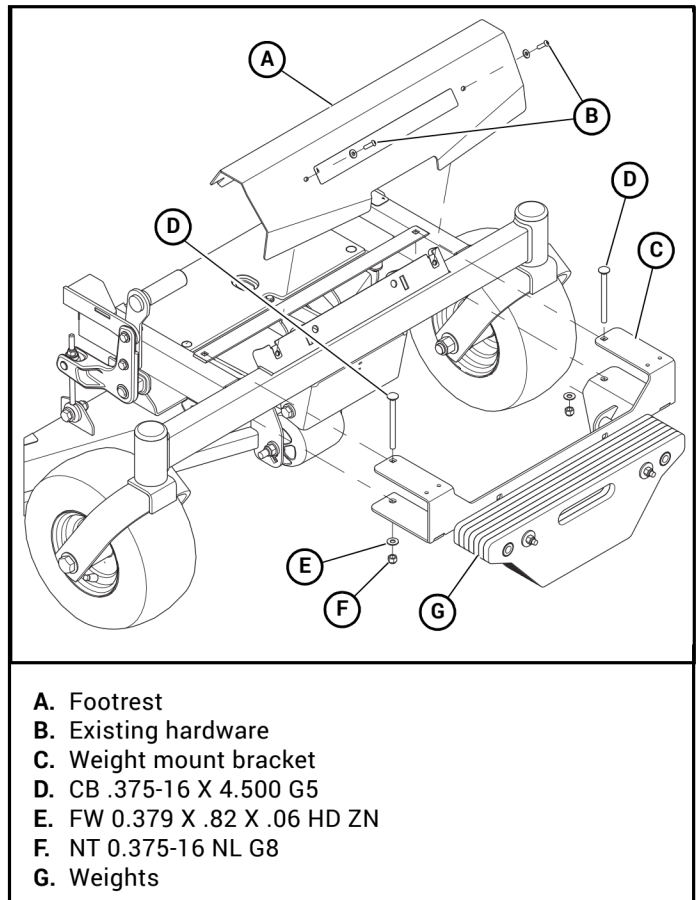

Figure 3-1
3. Slide on weight mount as shown. Remove the weight plates if necessary. Figure 3-1
4. Install the weight mount onto frame through the existing holes in footplate as shown. Figure 3-1
5. Install the footrest with the existing hardware. Figure 3-1